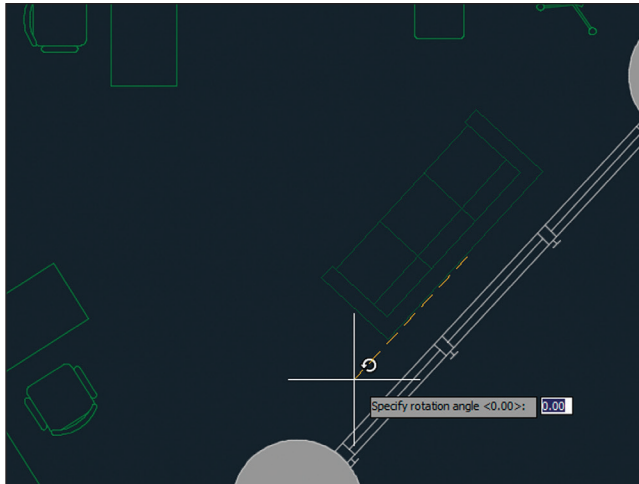

FIGURE 9.10 Inserting Sofa2 again as a local block
- Click approximately where you deleted the armchairs and side table to insert a Sofa2 block reference in the drawing and rotate it so that the sofa is again parallel to the exterior wall (see Figure 9.10).